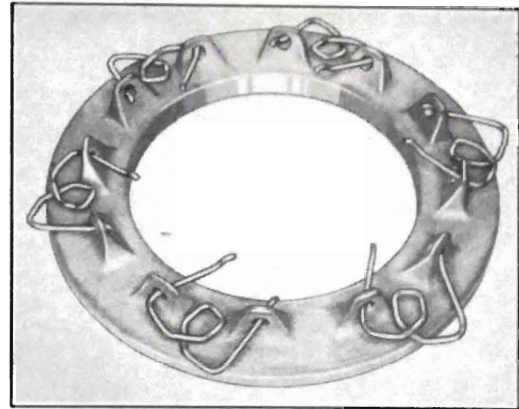

Fig. 6-105. Retainer Spring Positioning
1. Retainer springs must be inserted in pressure plate with curved ends of retainer spring legs toward crown spring. See Fig. 6-105.